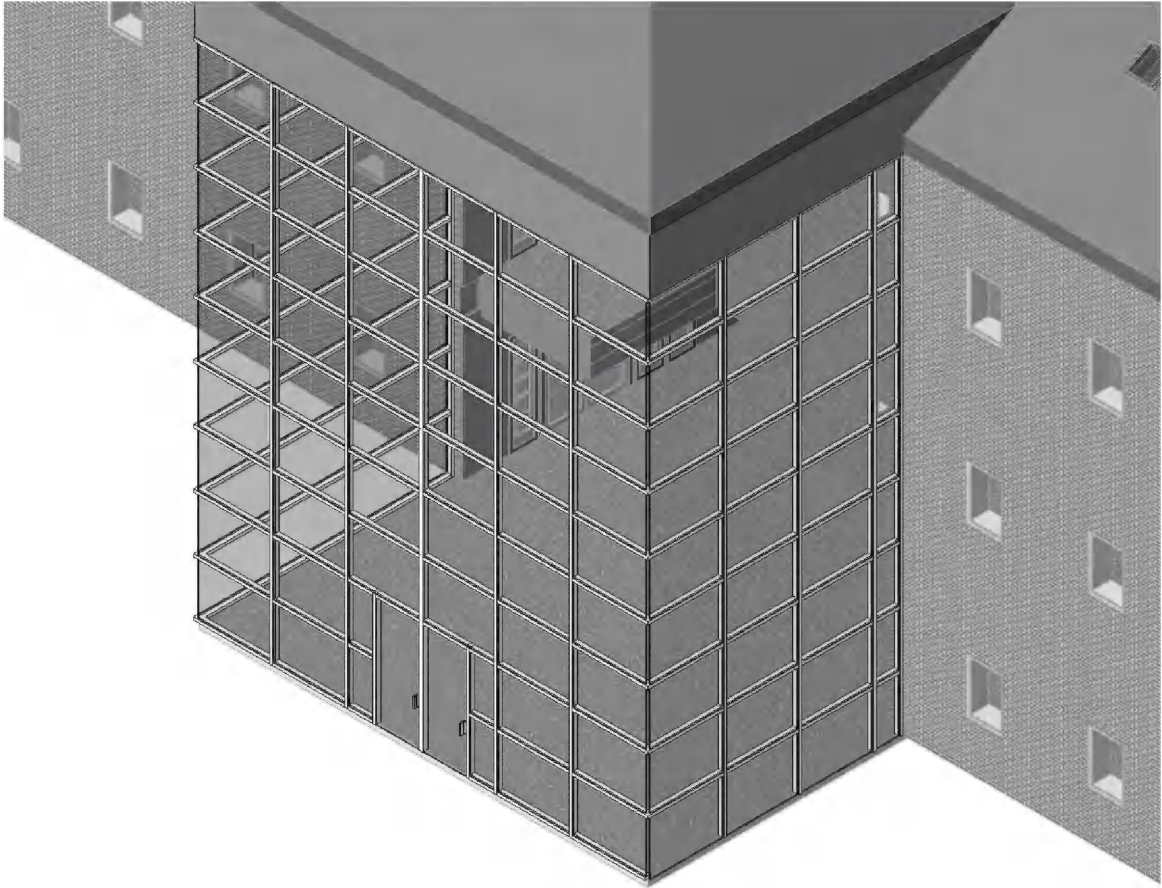

FIGURE 8-6.9 3D View: horizontal mullions added
18. Select each one of the grid lines to place the horizontal mullions (Figure 8-6.9).